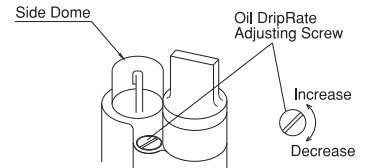

Fig.13
③ Adjusting the Oil Drip Rate (Fig.13)